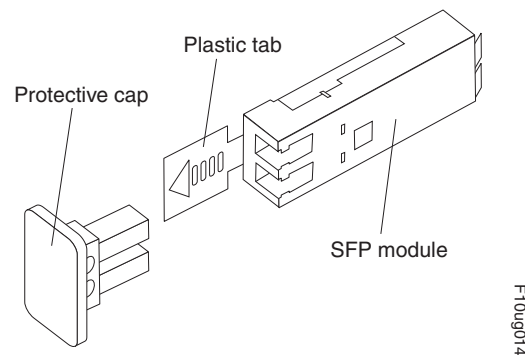

Figure 33. Small Form-Factor Pluggable (SFP) module
2. Remove the protective cap from the SFP module, as shown in Figure 33. Save the protective cap for future use.
2. If necessary, remove the protective cap from the SFP module, as shown in Figure 33 on page 49. Save the protective cap for future use.